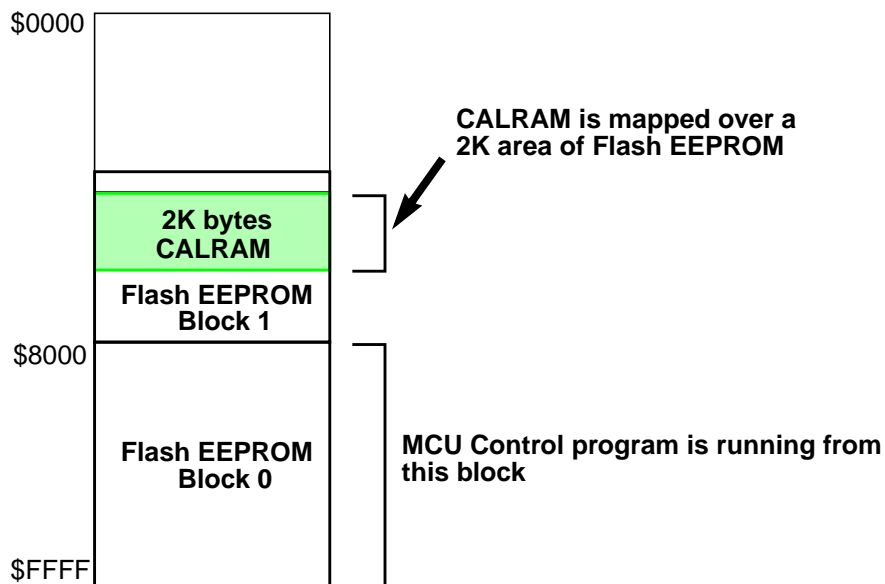

Figure 34 Map CALRAM over Flash EEPROM
- Initialize the CRAM[15:11] bits and set the CRAMON bit in the register INITCRM to overlap the 2K byte CALRAM array with the Flash EEPROM. Figure 34 shows an example of how to map the CALRAM over the Flash EEPROM.